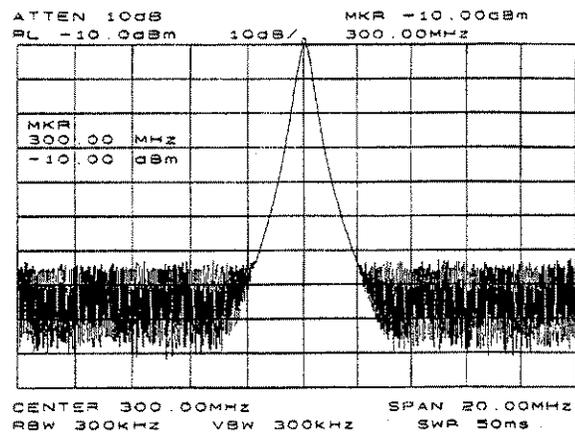

Figure 1-6. Activated Normal Marker
4. Activate the marker. Press **ON** which is located in the **MARKER** section of the front panel. This places a marker at the center of the trace (in this case, at the peak of the signal) and completes the measurement. The marker reads both the frequency and the amplitude and displays these values in the active function block. In this case, the marker reads 300.00 MHz and -10.00 dBm, as shown in Figure 1-6.